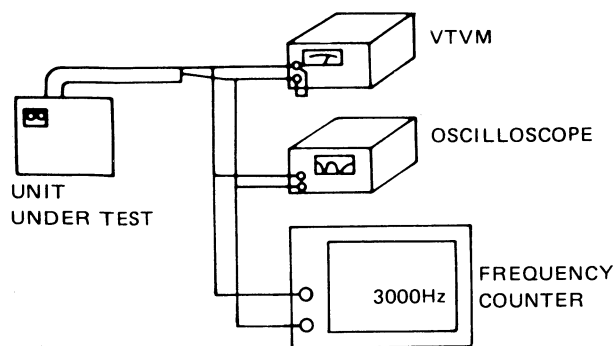

FIG. 8 AZIMUTH. SPEED ADJUSTMENT
- Connect the equipments as per Fig. 8 to adjust the tape azimuth with test tape (recorded at 8KHz MTT-113CN).
- Connect the equipments as Fig. 8 to adjust the tape speed with test tape [recorded at 3KHz, MTT-111N].